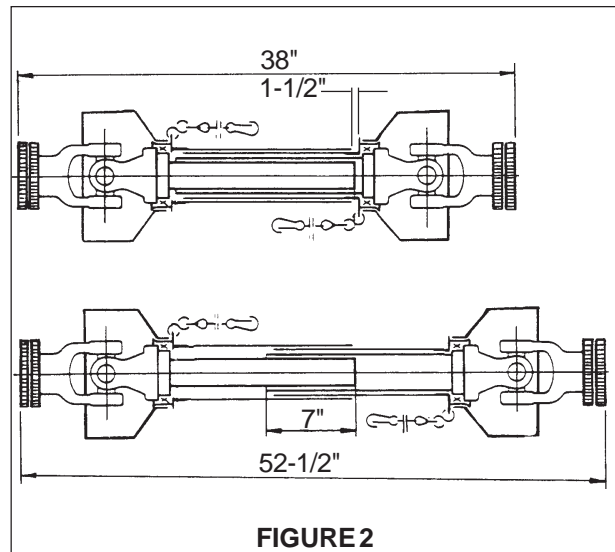

FIGURE 2
3. To install the driveline, separate slip joint halves; then install them onto mower gearbox input shaft and tractor PTO shaft according to illustration on driveline shield. Hold halves side by side, then raise and lower the mower to determine that there is no interference between halves when in the shortest position, and that there is a specified minimum amount of overlap when in the longest position. Once it is determined that the shaft will cause no clearance problems, remove the halves, rejoin them and install the assembled driveline between the tractor and the mower. Figure 2.